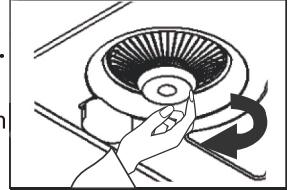

Fig.7-1
a. Remove the dripping oil cup and oil collector. (ref. Point 1 and 2) (fig7-1/7-2)